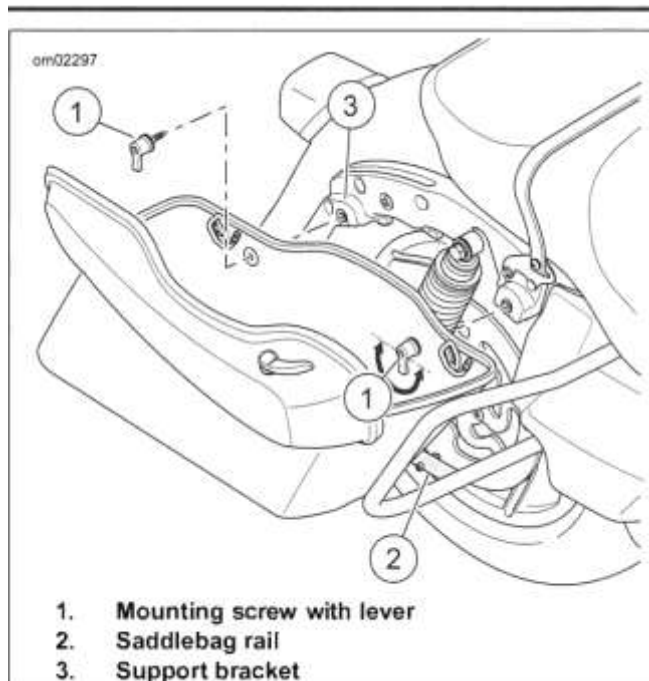

Figure 3-191. Saddlebag Removal/Installation
2. See Figure 3-191. Turn mounting screw levers counterclockwise to remove.
1. See Figure 3-191. Place saddlebag in position on saddlebag rail (2).